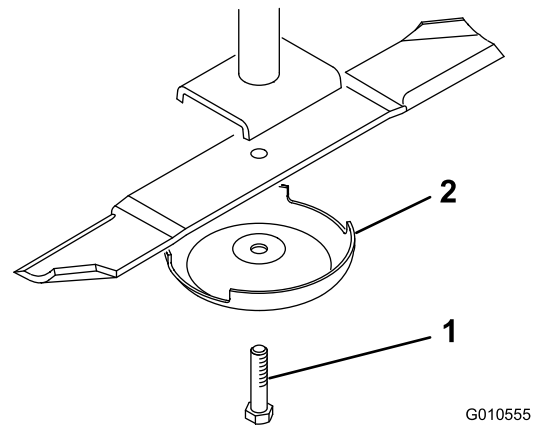

Figure 30
2. Grasp the end of the blade using a rag or thickly padded glove. Remove the blade bolt, anti-scalp cup, and blade from the spindle shaft (Figure 30).